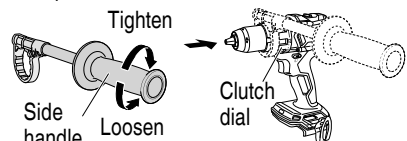

Fig. 11
2. Installing/Removing the side handle. (Fig. 11)